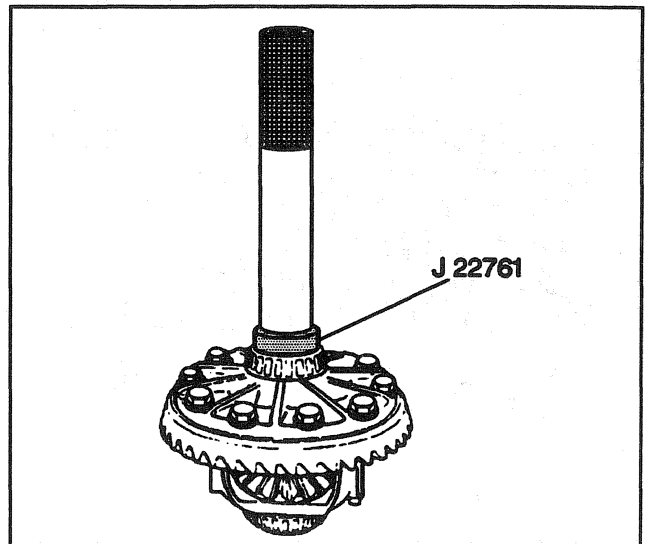

Figure 33—Installing the Differential Side Bearing
7. Side bearings, using J 22761 (K1 and K2 models) or J 29710 (K3 models) and J 8092 (Figure 33).